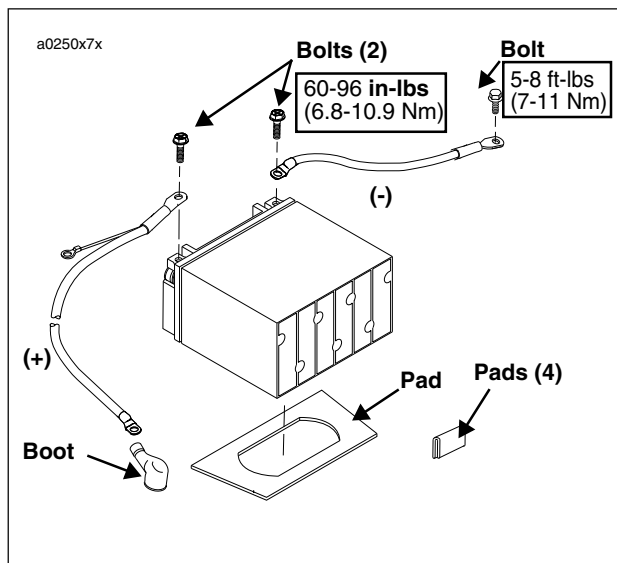

Figure 7-62. Battery Installation
2. See Figure 7-62. Insert bolt through battery positive cable (red) into threaded hole of battery positive (+) terminal. Tighten bolt to 60-96 **in-lbs** (7-11 Nm).
3. See Figure 7-62. Insert bolt through battery negative cable (black) into threaded hole of battery negative (-) terminal. Tighten bolt to 60-96 **in-lbs** (7-11 Nm).